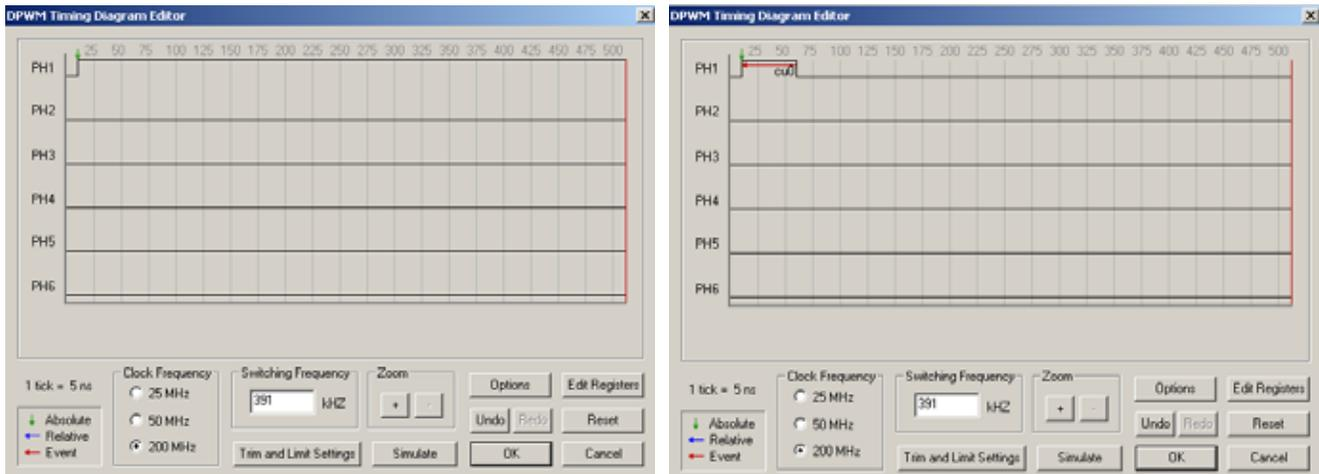

Figure 9. DPWM Timing Diagram Editor—Phase 1
2. To create an absolute edge on Phase 1, hold the mouse above the Phase 1 zero timing line (default) at time tick 10. Then, either double click with the left mouse button or right-click at that point and select **Absolute Edge**. An absolute edge at time tick 10 will be created (see Figure 9).
3. To finish the timing for Phase 1, specify hardware modulation using **(Cu0)**. This event edge will be modulated relative to its absolute edge at time tick 10. To create this edge, hold the mouse above the Phase 1 timing line to the right of time tick 10 at time tick 60. Either double-click or right-click at that point and select **Event (Cu0) Edge**. Next, select the edge to reference by clicking on edge 1 in Phase 1. A relative falling (Cu0) edge will be created at time tick 60 since $u(n)$ defaults to 50 (see Figure 9).